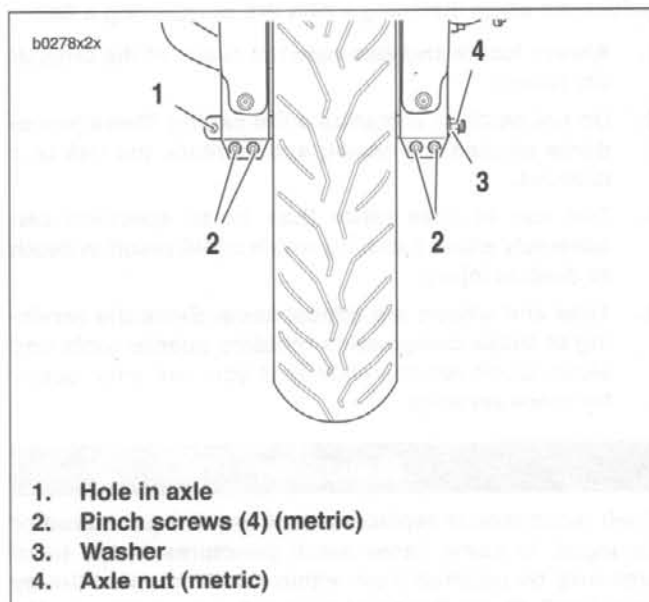
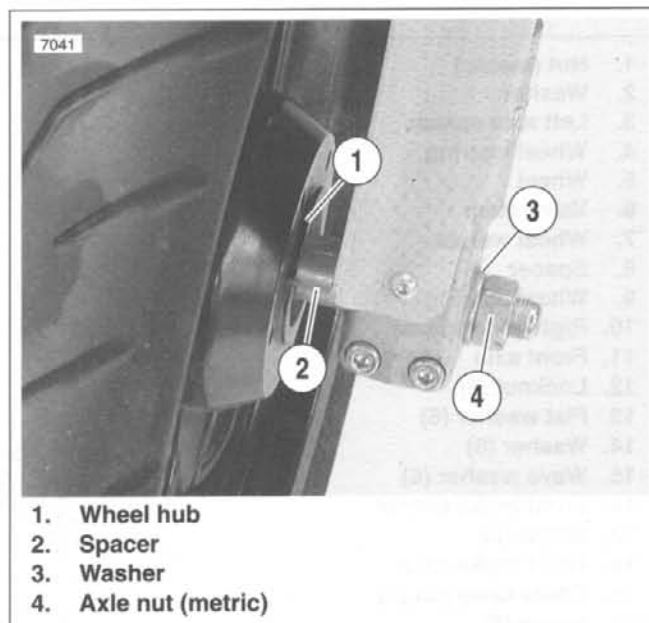

Figure 2-5. Front Wheel Mounting
Figure 2-8. Spacer
3. See Figure 2-5. Insert screwdriver/rod through hole in axle (1). Loosen front axle nut (4) (metric).
4. Loosen all four pinch screws (2) (metric).
5. Remove front axle nut (4) and washer (3). Pull front axle out of wheel hub while supporting front wheel.
- e. See Figure 2-8. Align spacer (2) between wheel hub and fork. Push axle through spacer and left fork leg.
3. Install axle nut (4).
- b. Install washer (3) and axle nut (4) (metric) over threaded end of axle.
- c. See Figure 2-5. Insert screwdriver or steel rod through hole (1) in axle.
- d. While holding axle stationary, tighten axle nut (4) (metric) to 48-53 ft-lbs (65.1-71.9 Nm).